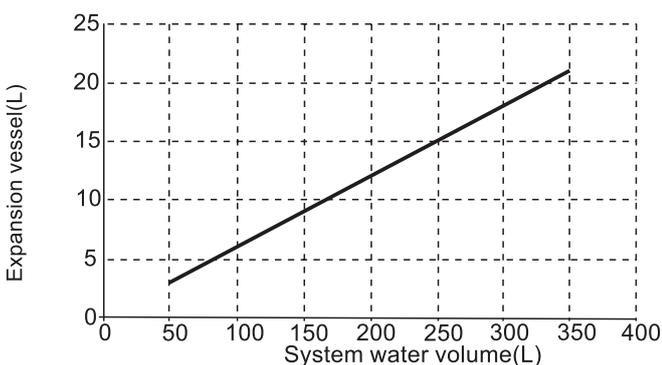

figure 1
- If no glycol is in the system, in case of a power supply failure or pump operating failure, drain all the water system if the water temperature is below 0°C in the cold winter (as suggested in the figure below figure 1 ).